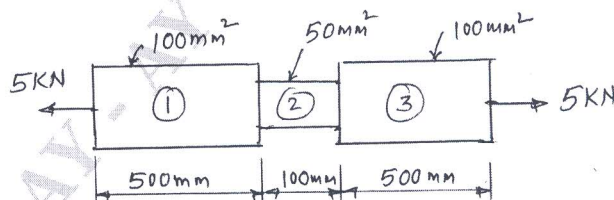

Fig.Q9(c)
- c. Calculate the strain energy stored in the bar shown in Fig.Q9(c) subjected to an axial force of 5 kN. Take $E = 2 \times 10^5$ N/mm².